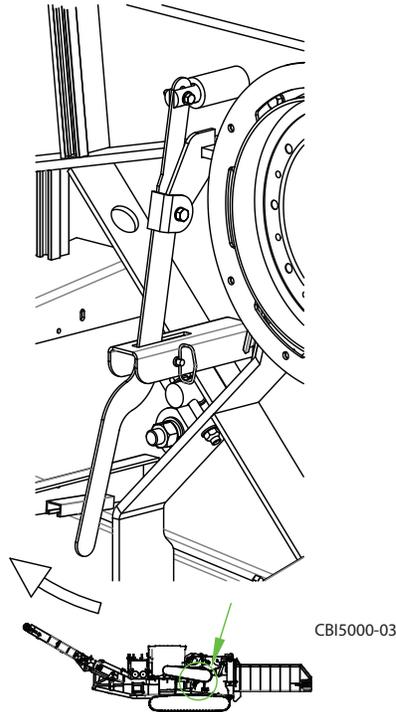
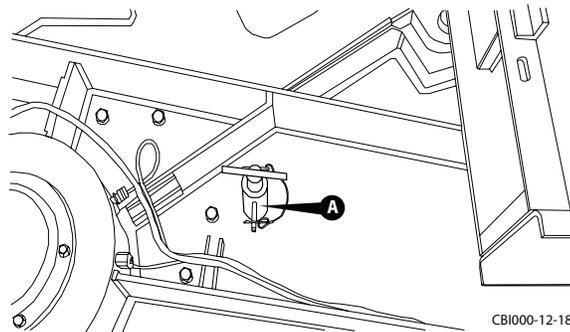

Figure 5.72 - Install Grate Retention Pin (6400/6800 Series)
Figure 5.73 - Install Grate Retention Pin (5800 Series)
4. Install Grate Retention Pin (if applicable) - Insert the grate retention pin (Figure 5.72 / Figure 5.73) and secure it. On the 6400C and 6800C Series machines, you insert the pin by pulling the arm towards the outside of the machine. See Section 2.2b for decal location.